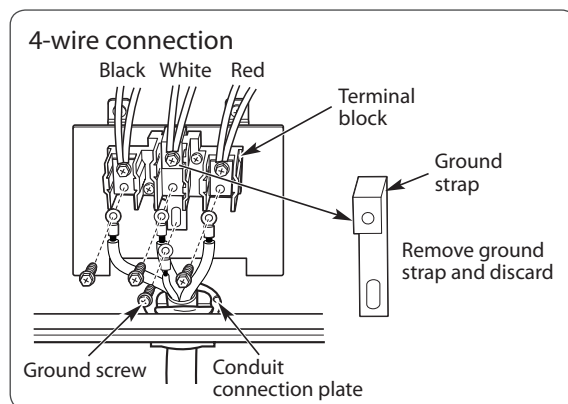

FIGURE 9
1. Remove the lower 3 screws from the terminal block and retain them. (Refer to Figure 9.)
2. Remove ground strap and discard as show in in Figure 9.